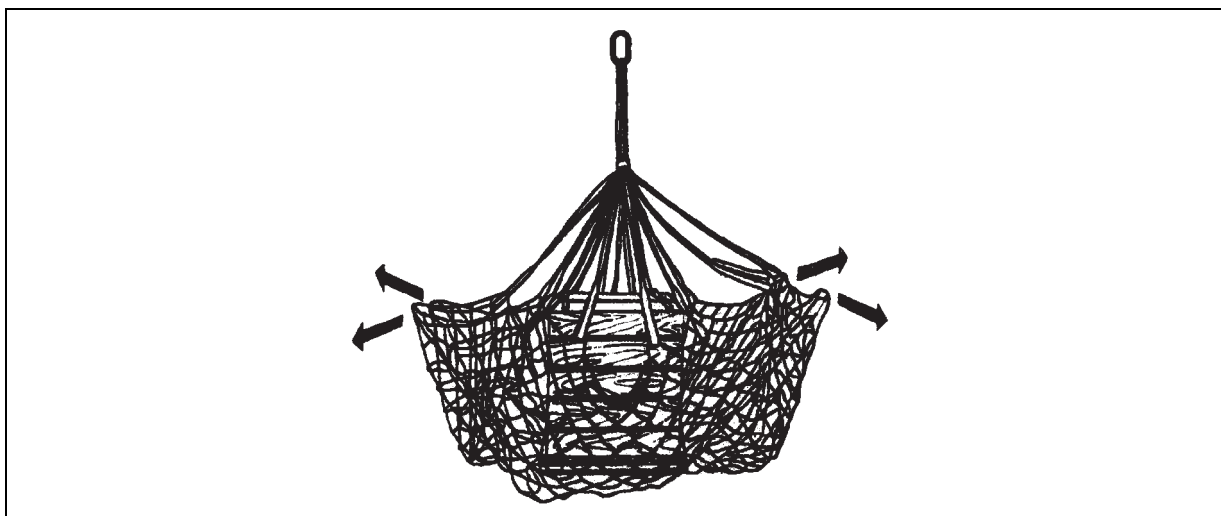

Figure 7-10. Net Pulled Outward from the Load
- Lift the sides of the net up while taping the legs so that the net does not get caught on the pallet or load protrusions (figure 7-10).